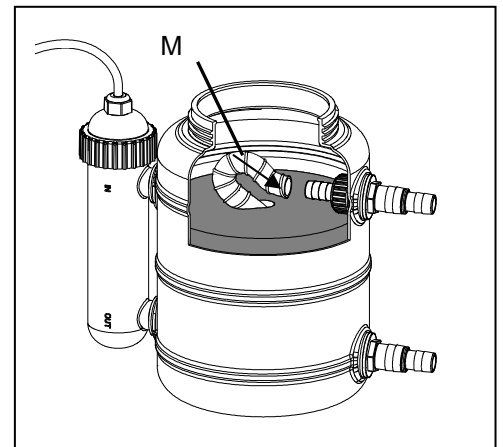

Fig. 5
5. Connect tubing to the small adapter. Fig. 5